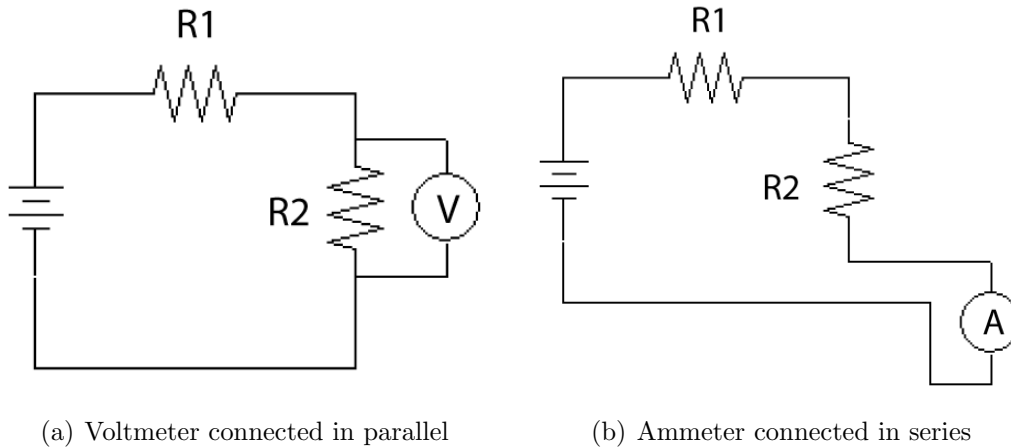

Figure 2.4: Schematics of meters being connected in a circuit.
**A voltmeter must be connected in parallel (across) to the circuit element of interest**, as shown in Fig. 2.4(a). Since the voltmeter measures potential difference between two points, it is easy to connect. To measure the potential difference (voltage drop) across a resistor, use two cables to connect the plugs of the voltmeter to the circuit across the resistor (one cable before the resistor and a second cable after the resistor). A voltmeter typically has a very large internal resistance; therefore very little current will flow through it. Consequently, the current in the circuit will be approximately the same before and after the voltmeter is connected.
**An ammeter must be connected in series with the circuit element of interest**, as shown in Fig. 2.4(b). This means that unlike measuring voltage, if you want to measure current you must break the circuit and wire the ammeter in. All of the current must flow through the ammeter in order for it to be measured. If you use your finger to trace the path of a charge in Fig. 2.4(b) after it leaves the power supply, you will see that it must go through both the resistor **and** the ammeter. In contrast, tracing the path of a charge in Fig. 2.4(a) you will see that it has two “parallel” paths through which it can go (do not connect an ammeter in this manner). An ammeter typically has a very small internal resistance. Therefore, the current in the circuit is approximately the same before and after the ammeter was connected, and you won't measure any current.